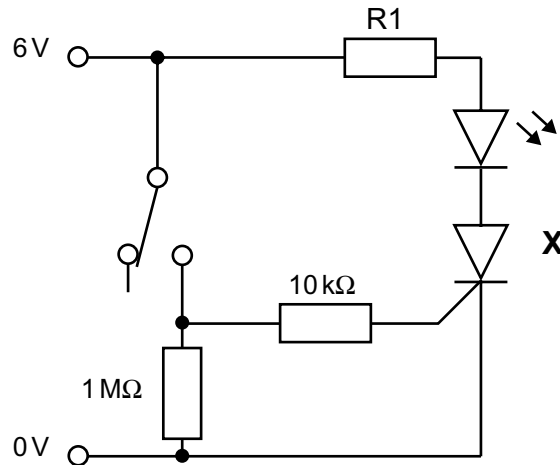

Fig. 9
- 9 The circuit shown in **Fig. 9** has been designed to indicate if a security door in a building has been opened.
- (ii) Name component **X** shown in **Fig. 9**. [1]
- (iv) The resistors shown in **Fig. 9** have been selected from the E12 series. Explain what is meant by the term E12 series. [3]
- (v) Calculate the power dissipated by the resistor R1 in **Fig. 9** if the current flowing in the LED is 10 mA and the LED forward voltage is 2 V. (Assume that there is no voltage drop across component **X**). [3]
- (vi) Using a labelled circuit diagram, show how the circuit in **Fig. 9** could be reset if the LED has been switched on. [2]
- (vii) The circuit shown in **Fig. 9** is to be replaced by one using an SR flip flop.